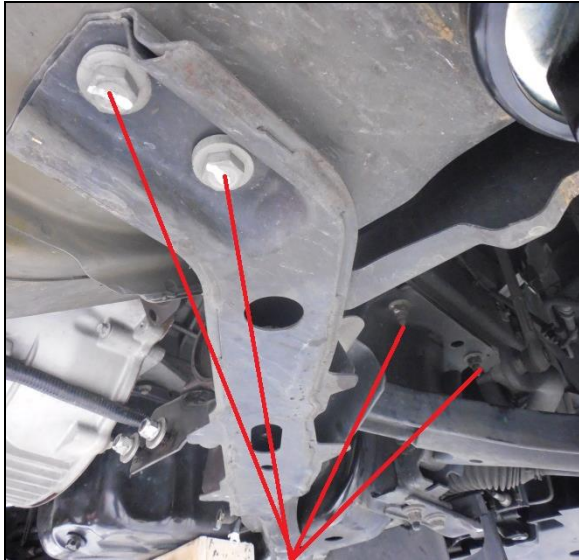

Figure 4
16. Loosen the (x4) 18mm head bolts and (x4) 18mm head nuts securing the k-member to the chassis. Back them out as far as possible but, **DO NOT** remove the bolts/nuts. See **Fig. 4 & 5**.